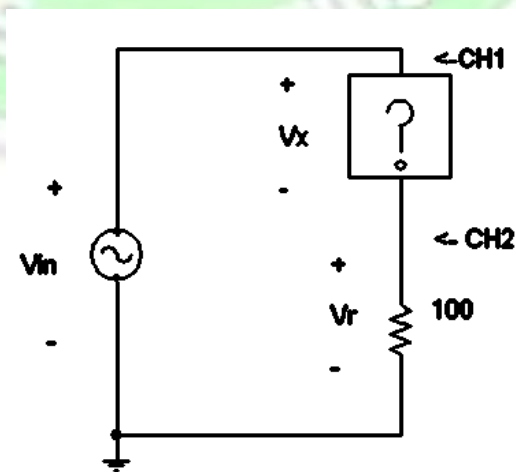

Fig. 9-1
- 1- Wire the circuit as shown in Fig. 9-1